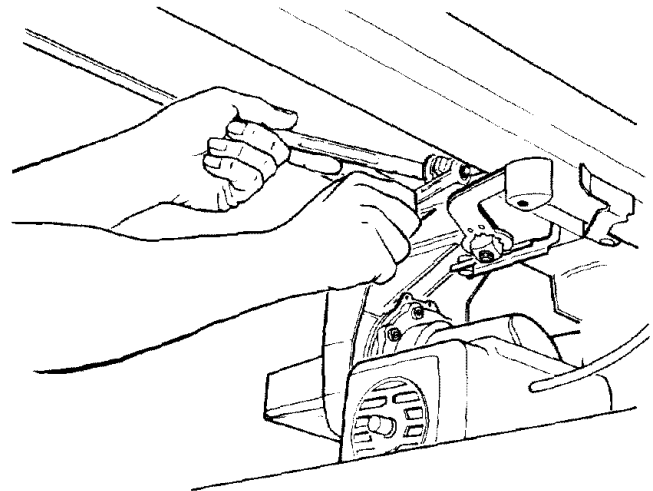

Fig. 90
6. Loosen the hex nut on the *rear carriage bearing*. Use a 9/16 inch wrench to hold the bolt and a 1/2 inch wrench to loosen the nut. (Figure 90)